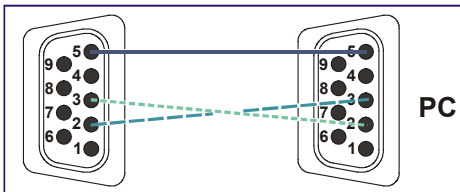

Figure 7: Crossed Cable RS-232 Connection
**Method A** (Figure 7)—Connect the RS-232 9-pin D-sub port on the unit via a crossed cable (only pin 2 to pin 3, pin 3 to pin 2, and pin 5 to pin 5 need be connected) to the RS-232 9-pin D-sub port on the PC.